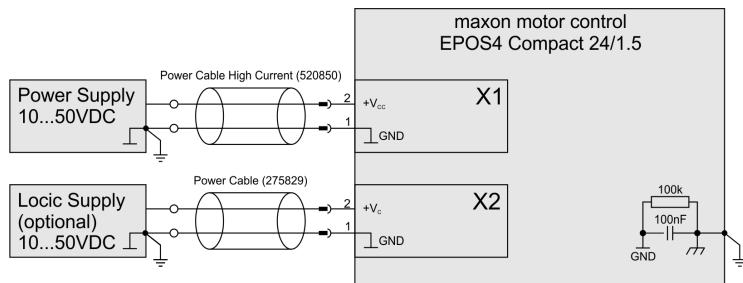

Figure 5-65 Power & logic supply
**Power supply & optional logic supply . . . . .** Figure 5-65
Power supply & optional logic supply ..... Figure 5-65